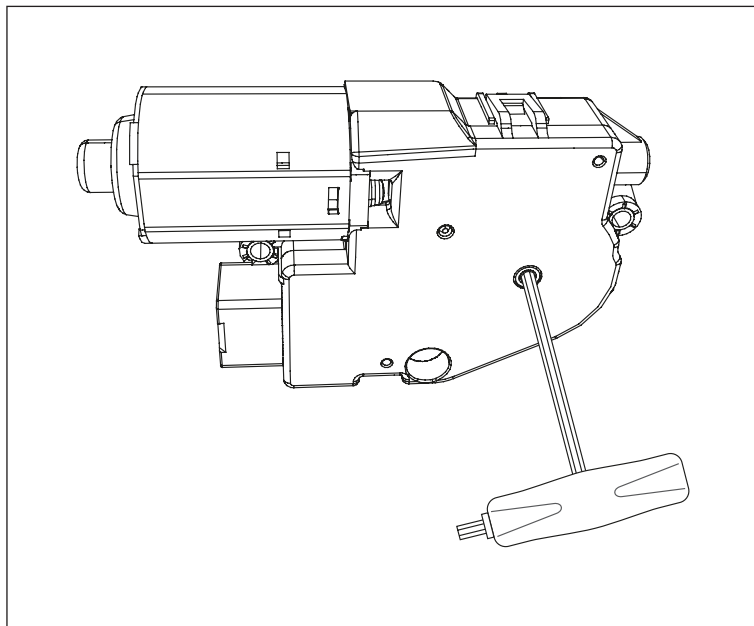

Fig. 5
- When necessary, the roof can be operated manually. The driving shaft of the motor can be turned with the emergency key to open or close the roof. See Fig. 5.